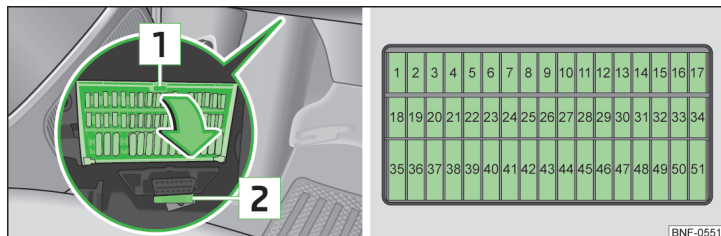

Fig. 124 Fuse Box / Fuses
The fuses are located underneath the steering wheel on the underside of the dash panel » Fig. 124.
- Press the button **1** » Fig. 124.